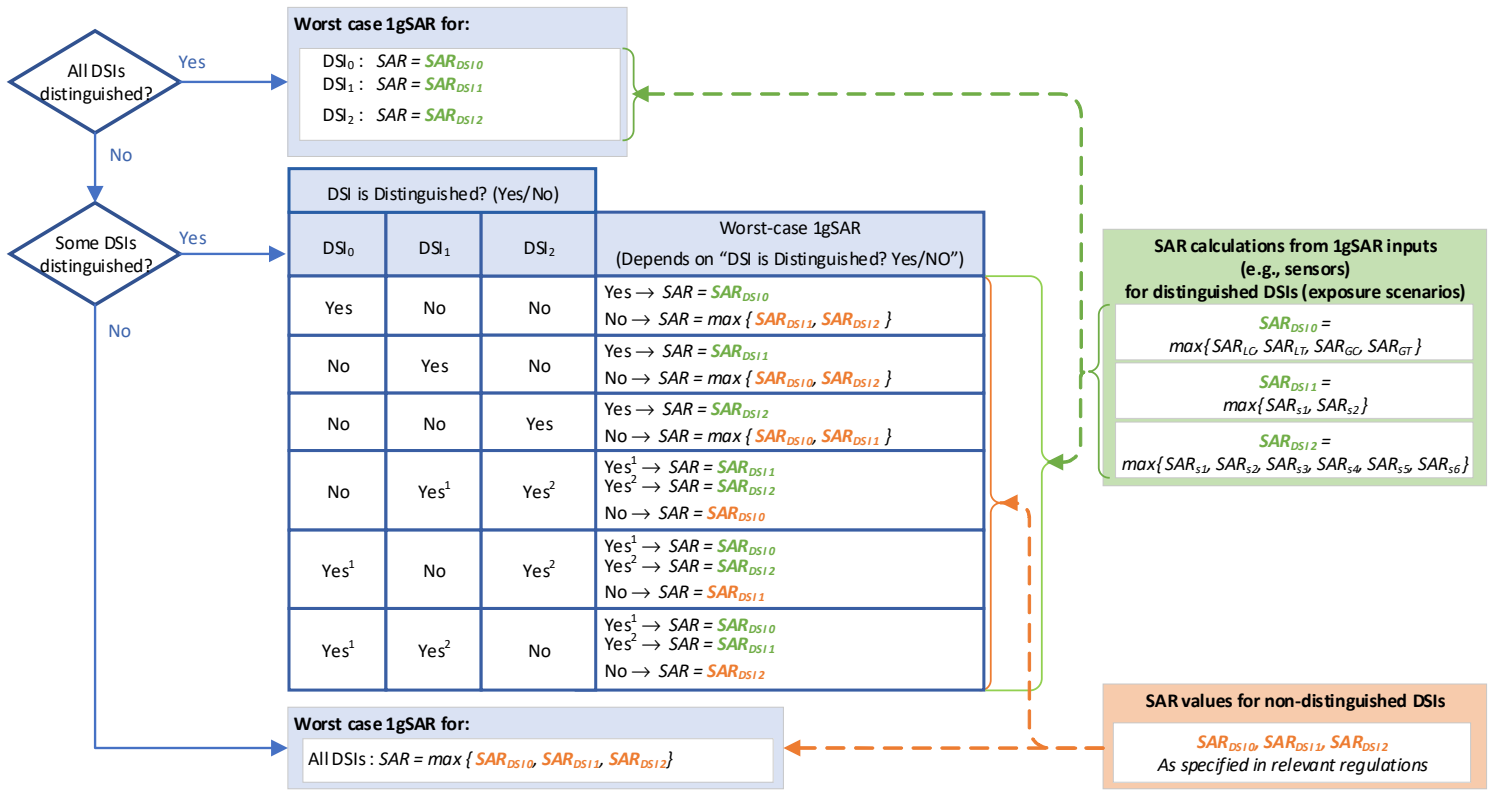

Figure 3: Worst Case 1gSAR Determination Based on SAR Scenario Detection Scheme
Note: For example, the hypothetical wireless device described in this procedure (e.g., Figure 3, Worst Case 1gSAR Determination Based on SAR Scenario Detection Scheme, on page 9) has three defined exposure scenarios (DSI 0, DSI 1 and DSI 2).
2. Determine the worst-case RF exposure values for each DSI (1gSAR values for FCC, 10gSAR values for ROW). The example shown in Figure 3 represents a wireless device with three exposure scenarios — *DSI 0*, *DSI 1* and *DSI 2*. (Note: Examples shown in this document (unless otherwise indicated) refer to 1gSAR values (FCC).)